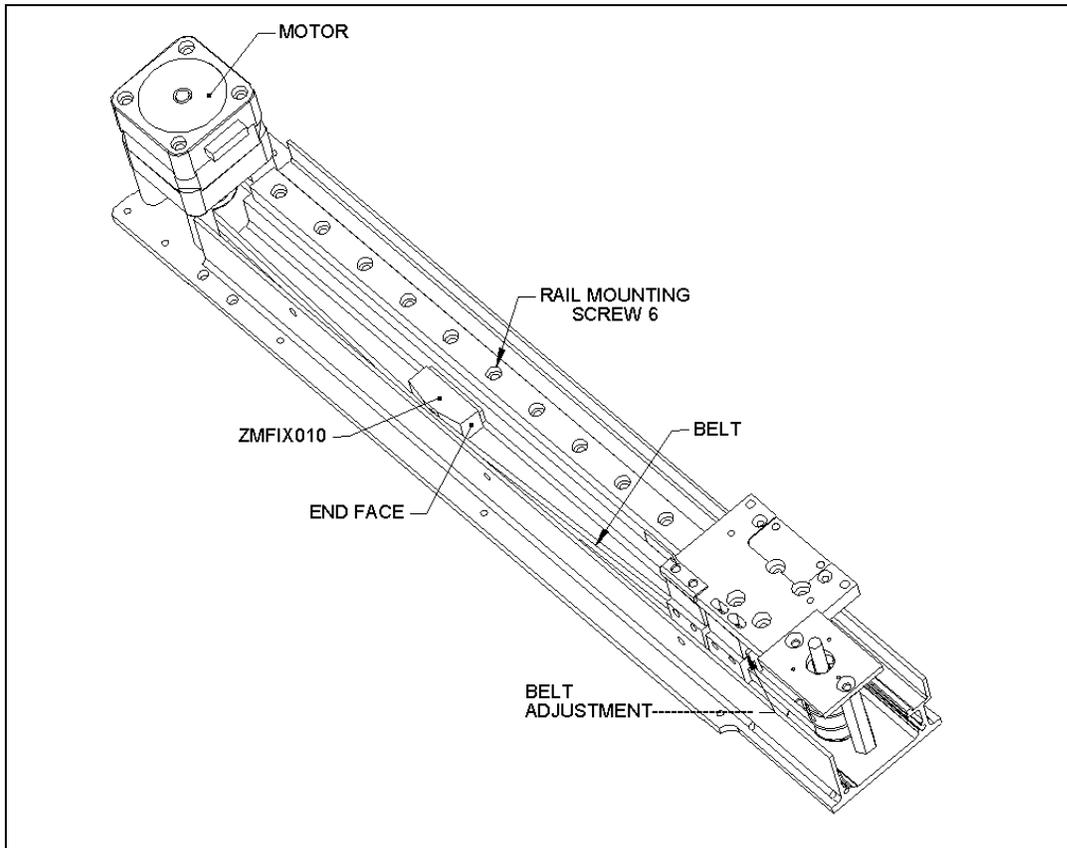

Figure 7-28 Location of Positioning Jig
- 7 Locate the pipette carriage fully away from the motor and position the Z Belt Tensioning Jig (ZMFI010) with the end face in line with rail mounting screw 6 (from the motor end) as shown in Figure 7-28. Tighten the belt adjustment screw until the belt pushes the plunger flush to the face of the jig body, then remove the jig. Individually remove and re-install each screw in the adjustable block, including the long adjustment screw, applying Loctite 222 to each screw and then tightening.